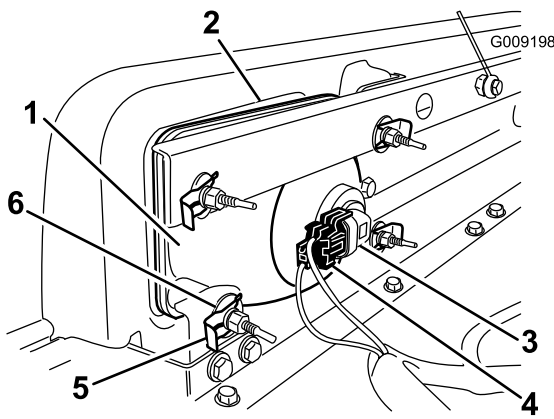

Figure 34
2. Remove the headlight assembly by moving it forward through the opening in the front bumper (Figure 34).
3. Install the new headlight through the opening in the bumper (Figure 34). Ensure the adjustment posts are lined up with the holes in the mounting bracket in the bumper.